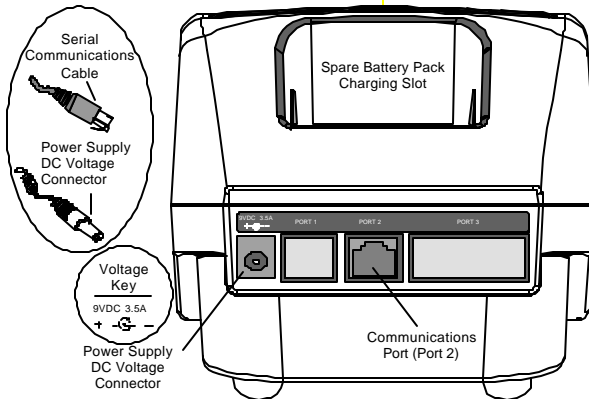

Figure 6: Apex III Dock (Rear View)
- Plug the round male Power Supply DC voltage connector (cable permanently attached to Power Supply) into the DC voltage connector on the back of the Apex III Dock (refer to Figure 6).
- To use your Apex III Dock for communications with the Apex III PDT, connect the 10 pin Phone Plug of a Compsee serial communications cable to Port 2 on the back of the Dock (refer to Figure 6).